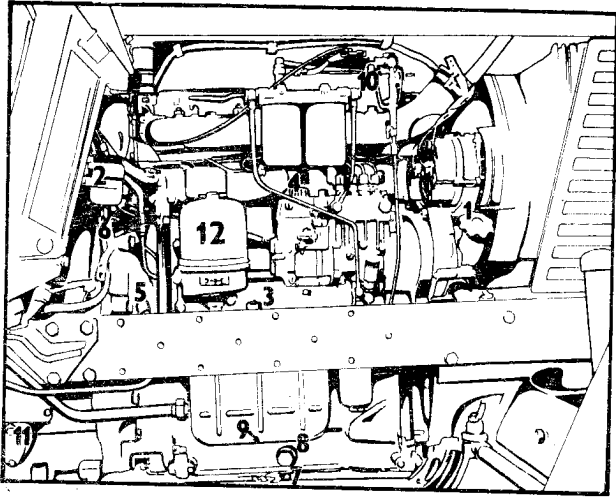

Fig. 13
- Engine oil filling plug (Fig. 13/1)
- Brake fluid tank filling plug (Fig. 13/2)
- Power-assisted oil tank filling plug (Fig. 13/3)
- Injection pump and governor oil filling plug (Fig. 13/4)
- Engine oil level indicator (Fig. 13/5)
- Engine block cooling liquid drain plug (Fig. 13/6)
- Engine pan (tank) water drain plug (Fig. 13/7 - Z 8011).
(Fig. 13/8) — Oil tank drain plug on Z 12011 and
- Power-assisted steering tank oil drain plug (Fig. 13/9)
- upward or downward position, i. e. the supply is open (Fig. 13/10)